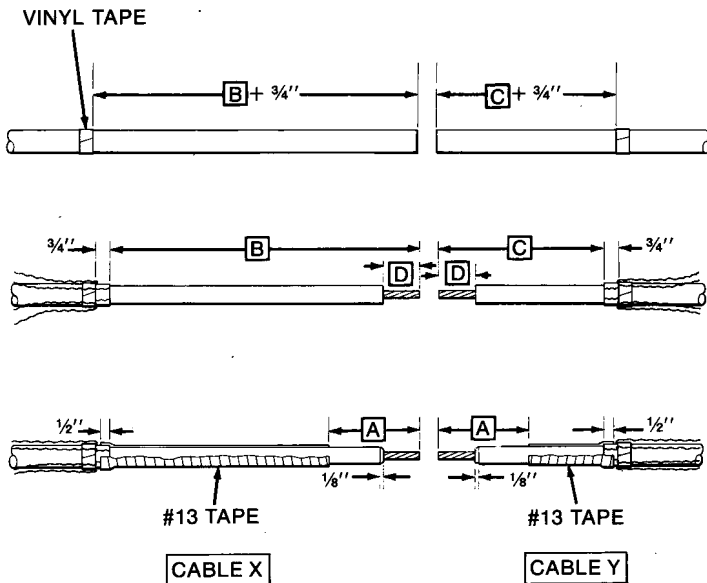

Figure 1
2. Place vinyl tape marker at dimension **B** plus 3/4" for cable "X" and **C** plus 3/4" for cable "Y" (Figure 1, Table A). Pull shield wires back to this marker. **DO NOT CUT WIRES OFF.**
4. Remove insulation to dimension **D** (Figure 1). Taper end of insulation for 1/8" at approximately 45°.
6. Starting approximately 1/2" on semi-con jacket, apply one highly elongated half-lapped layer of #13 Semi-Conductive Tape along insulation to dimension A for cable "X" and "Y" (Figure 1). Leave a smooth even leading edge and continue taping back to semi-con jacket cut-off point.